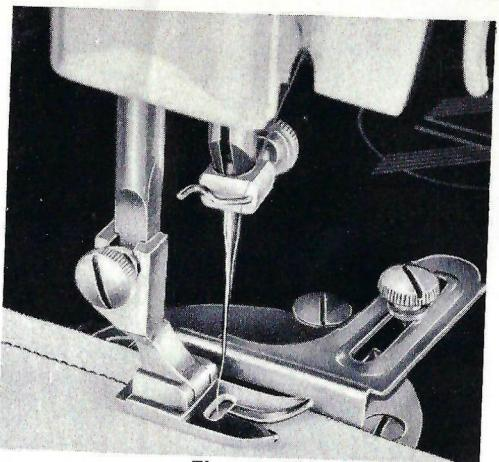

Fig. 45
- a. Attach cloth guide to bed of machine by means of a thumb screw which fits into one of the screw holes in the bed of the machine (Fig. 45).